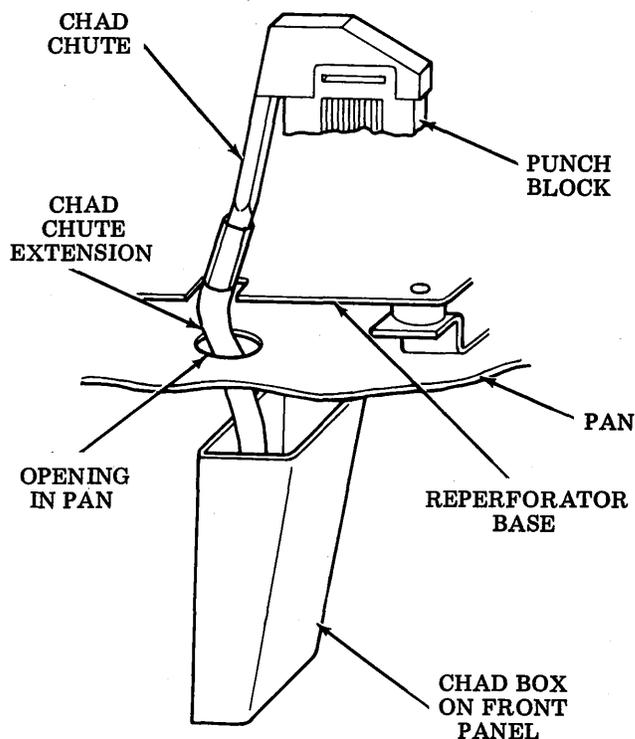

Figure 15 - Chad Disposal System
4.02 Feed the chad chute extension up through the hole in the pan. Remove the metal chad chute from the reperforator punch block (Figure 15). Slip the upper end of the extension over the lower end of the chad chute. Replace the chad chute on the punch block.